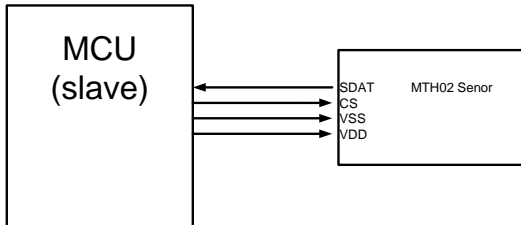

Figure 1: Typical Application
- 3) If the same: shift CRC register, bit0='0' else: shift CRC register and then invert bit4 and bit5, bit0='1' (see figure 1)